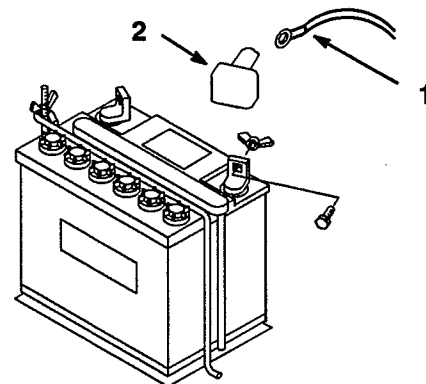

Figure 3
1. Remove positive (red) battery cable mounting bolt (Fig. 3).